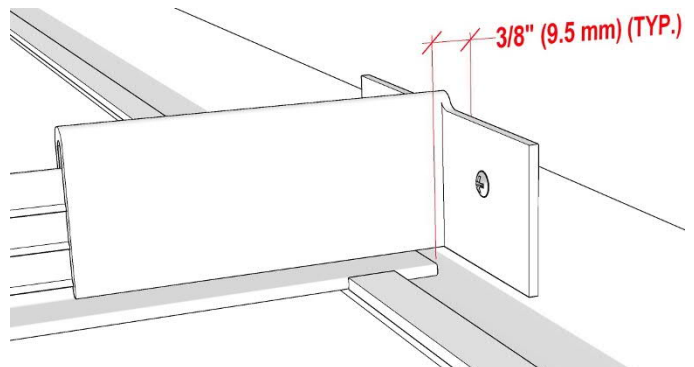

FIG. 29
5. The **Mainrails** and **Crossrails** will have the ability to have a slip movement of 3/8 inch (9.5mm) at each end of the Rail Lane. This allows for a total of 3/4" (19 mm) slip movement in the **Rail Lane**. FIG 29